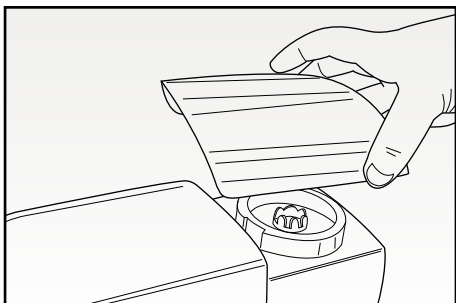

Fig. 8
- Remove the lid of the blender housing (Fig. 8) from the appliance body (G).